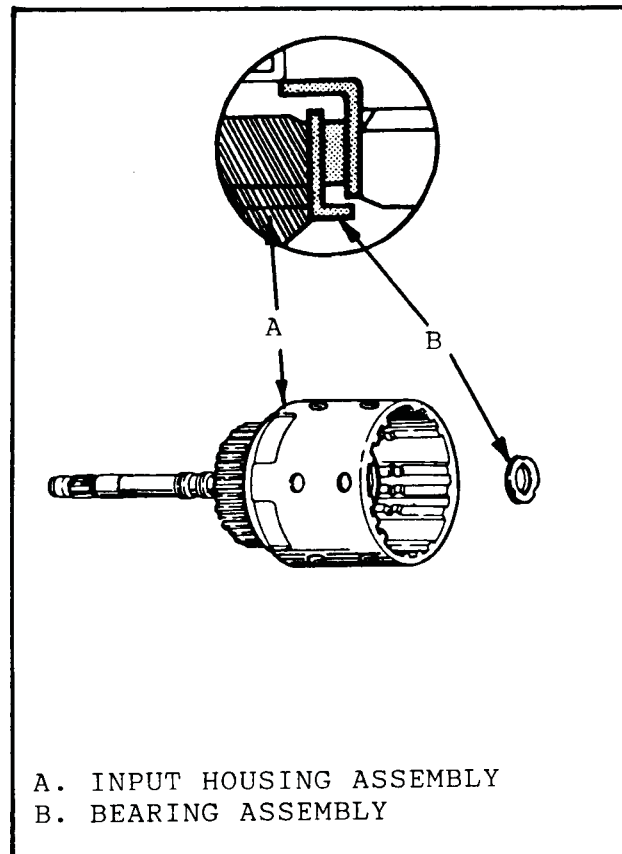

Figure 81
6. Install thrust bearing assembly into input housing as shown in Figure 81.